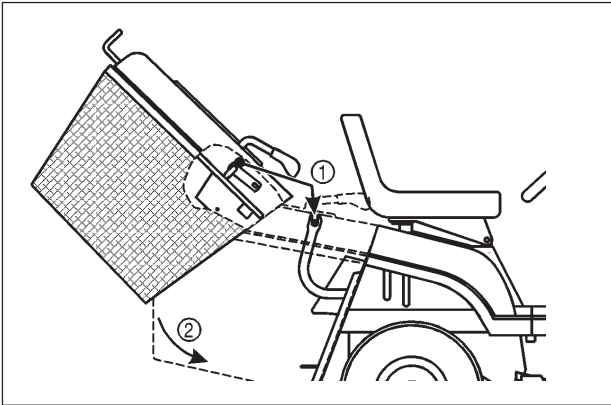

Fig. 6
PLACING THE GRASS COLLECTOR ON THE TRACTOR (FIG. 6)
1. Lift the grass collector assembly with both hands. Slant it to an angle of approximately 40° (fig. 6).